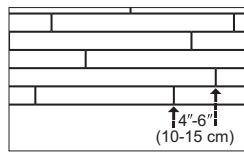

Figure 4
- Be attentive to staggering the ends of boards at least 4"–6" (10–15 cm) when possible, in adjacent rows (Figure 4). This will help ensure a more favorable overall appearance of the floor.
- End-joints of adjacent rows should be staggered a minimum of 4"–6" (10–15 cm) when possible, to ensure a more favorable overall appearance (Figure 4).